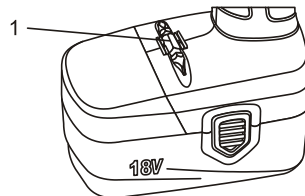

Fig. 3
Convenient on-board screwdriver bit storage (1) is provided on the drill/driver handle base (Fig. 3).